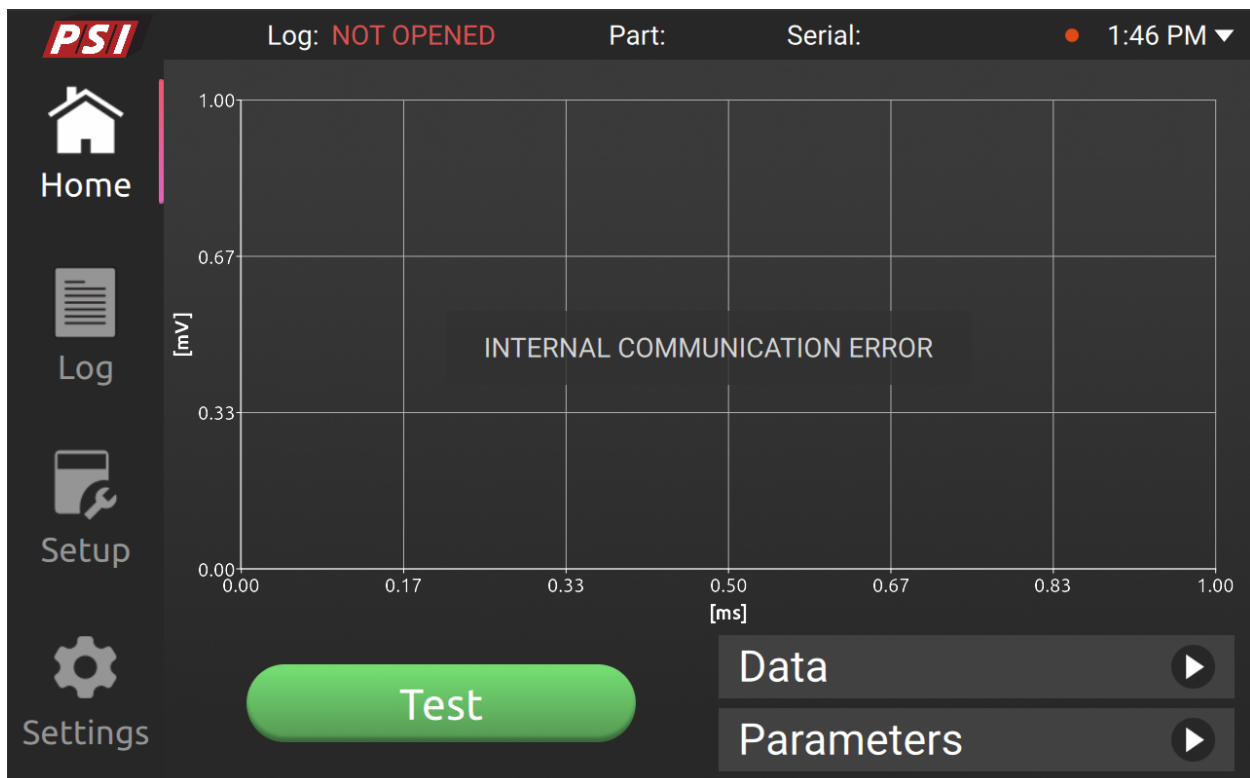

Figure 18 – Illustration of the Home screen – “Internal communication error” state
- **“Internal communication error”** – Indicating a complication encountered while attempting to establish communication with the MCU (refer to Figure 18)."